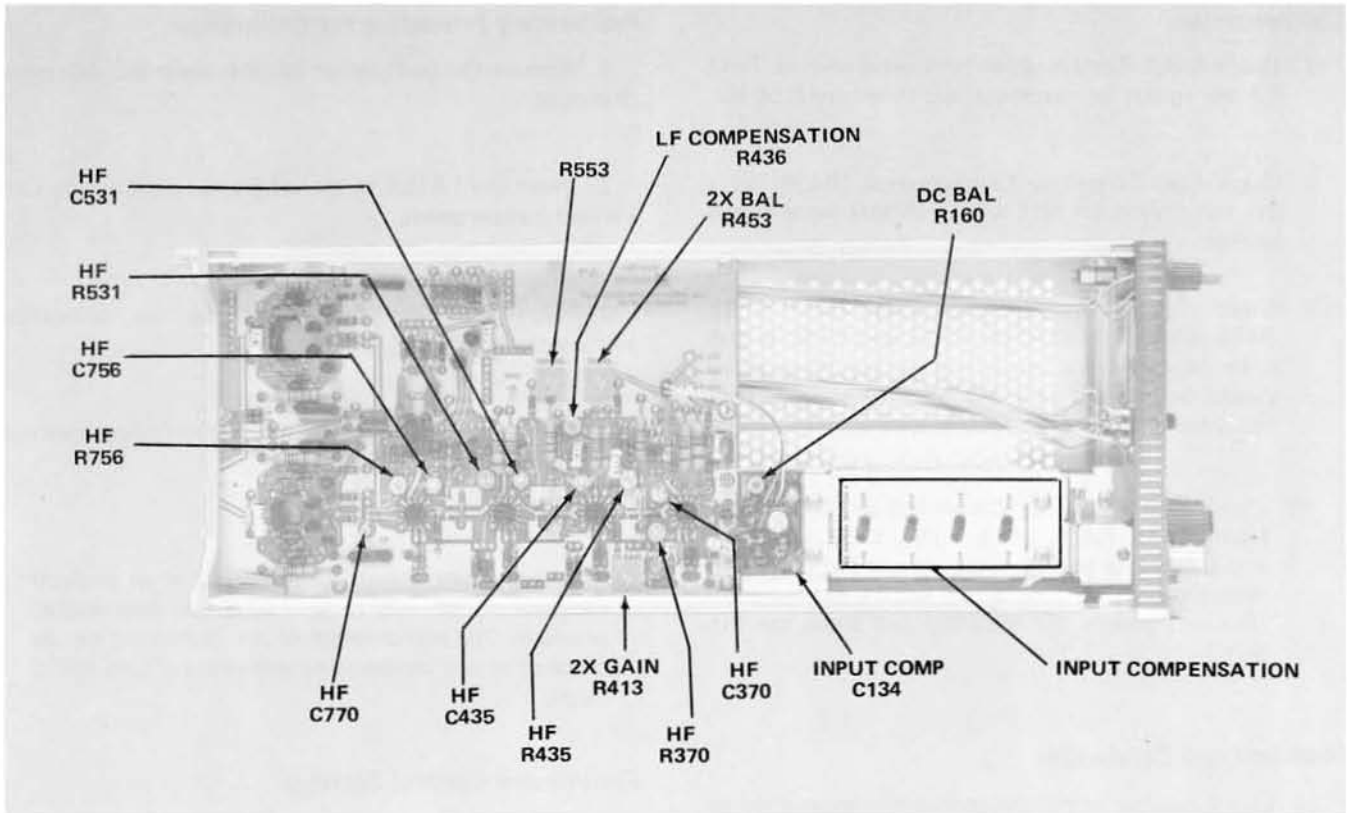
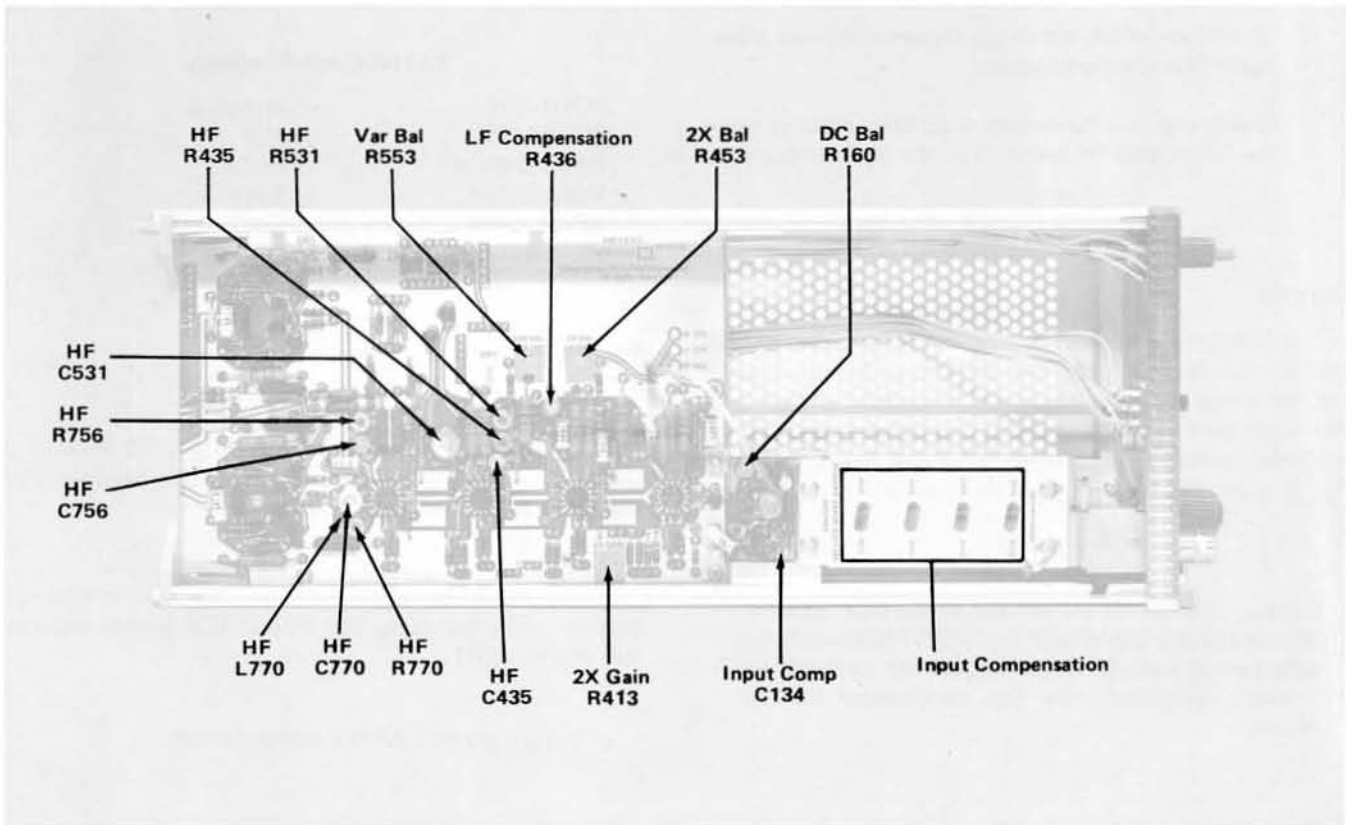

Fig. 5-1a. Location of adjustments, S/N B050000 & up.
Fig. 5-1b. Location of adjustments, Below S/N B050000.
9. Check High Frequency Compensation R531, C531, R435, C435, R756, C756, R770, and C770 in that order for best front corner and flat top. Aberrations should not exceed $\pm 4\%$ and 6% peak-to-peak. (For instruments below SN B050000 see Fig. 5-1b.)
10. Check High Frequency Compensation R370, C370, R531, C531, R435, C435, R756, C756, and C700 in that order for best front corner and flat top. Aberrations should not exceed $\pm 4\%$ and 6% peak-to-peak (For instruments SN B050000 and above see Fig. 5-1a.)
The following procedure is arranged so that the 7A16A can be calibrated with the least interaction of adjustments and re-connection of equipment. The control settings and test equipment setup throughout this procedure continue from the preceding steps unless otherwise noted. Refer to Fig. 5-1a and Fig. 5-1b for location of adjustments.